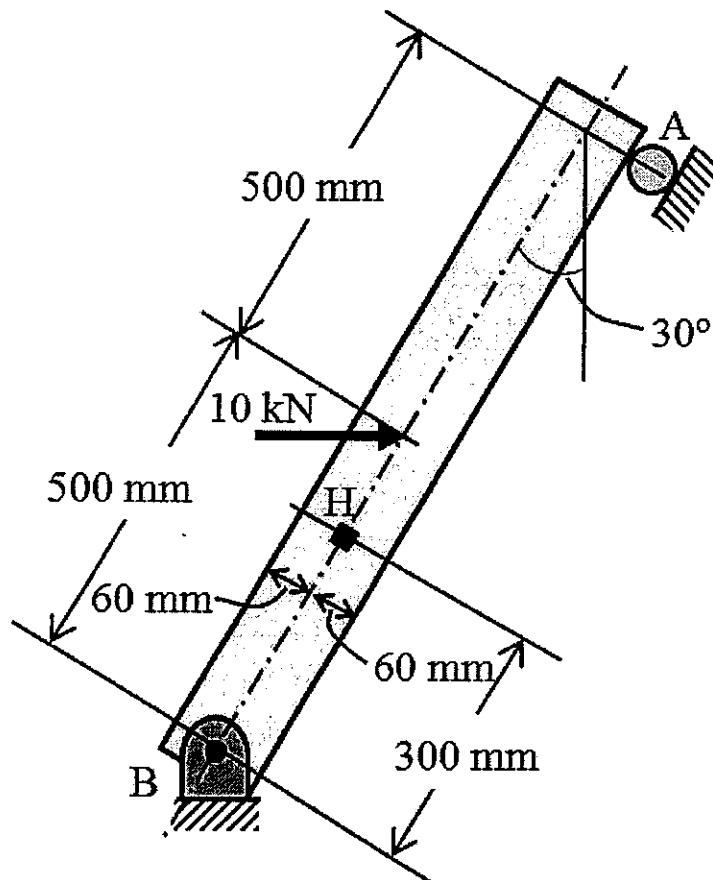

Figure 3
3. A simply supported member AB is loaded as shown in Figure 3. The member has a uniform 50×120 mm rectangular cross section. Ignore the weight of the member.